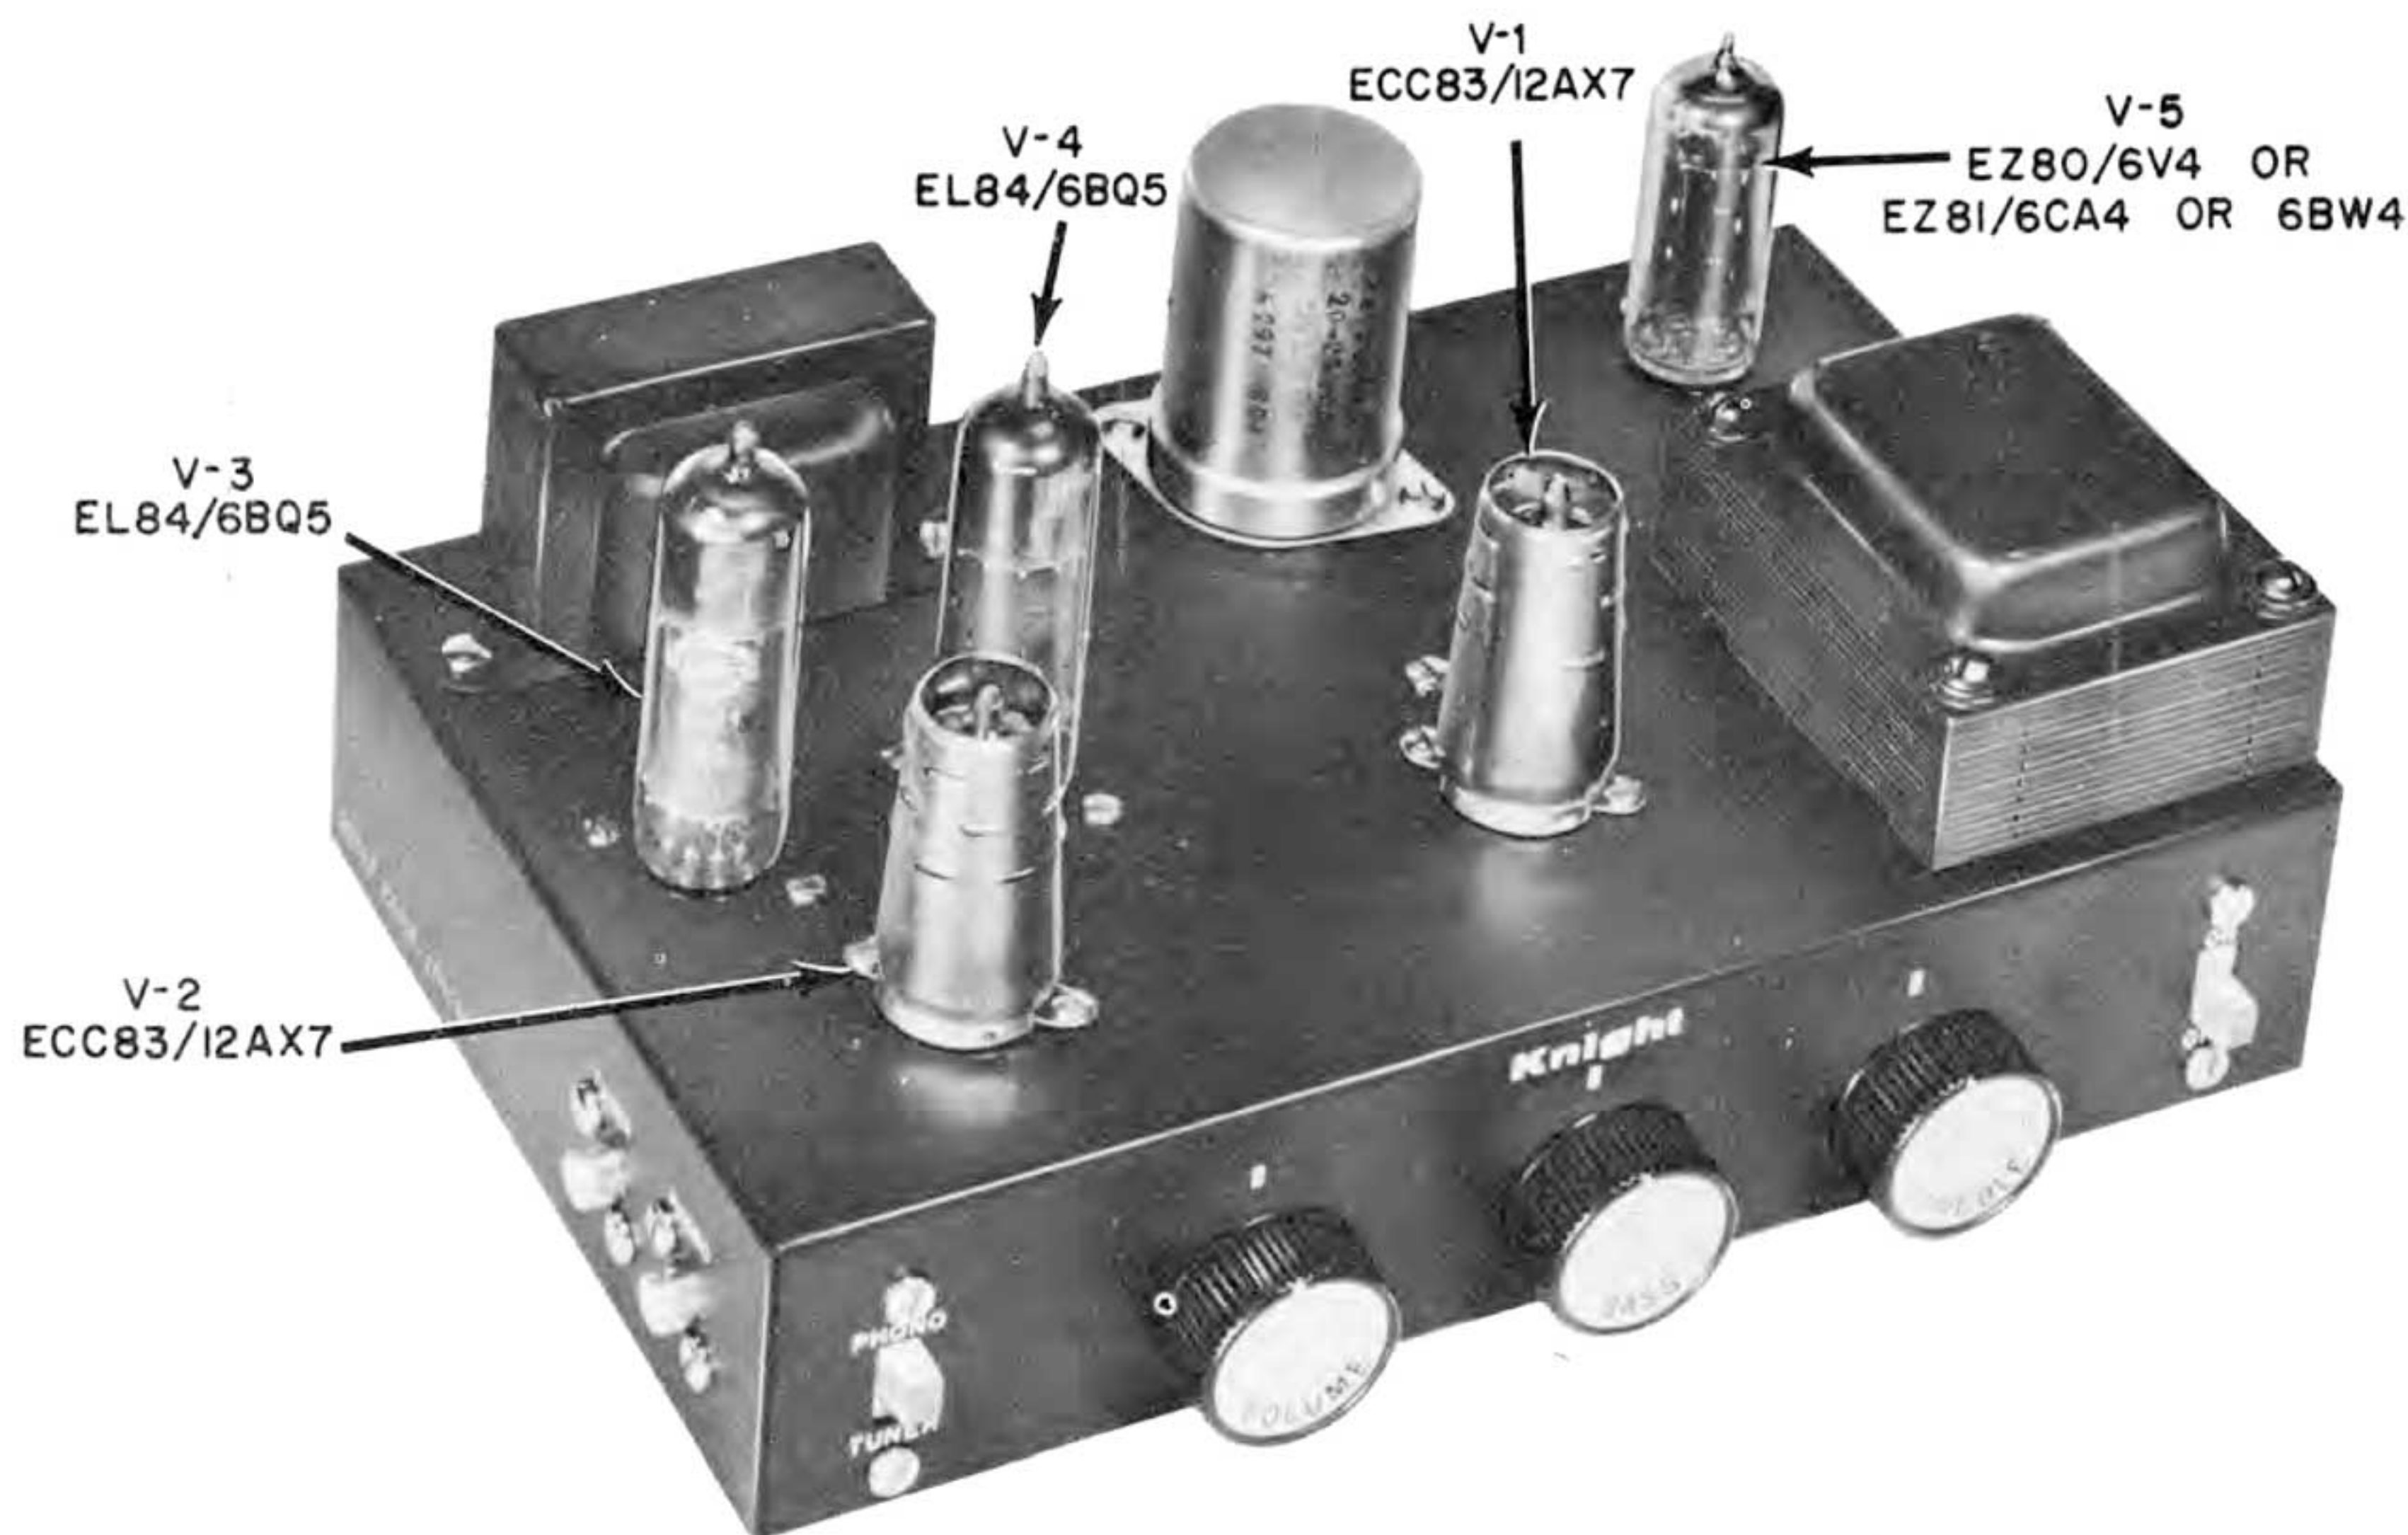

FIGURE 13. TOP VIEW OF AMPLIFIER
- ☐ See Figure 13. Insert the V-1, V-2, V-3, V-4 and V-5 tubes in their sockets, as shown.